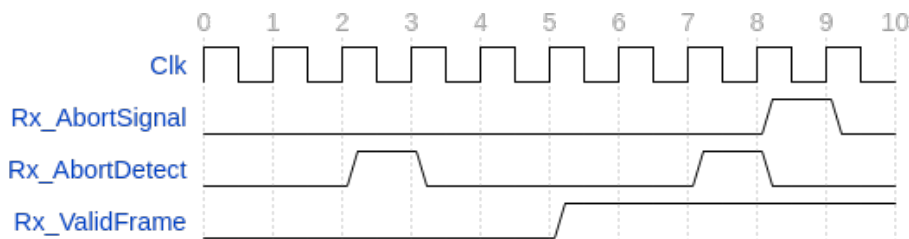

Figure 2.5: Wave diagram of *Rx_AbortSignal* behavior.
- *Rx_AbortSignal* should be asserted by the *RxController* when *RxChannel* detects an abort flag. But only if it is detected during a valid frame (Fig. 2.5)